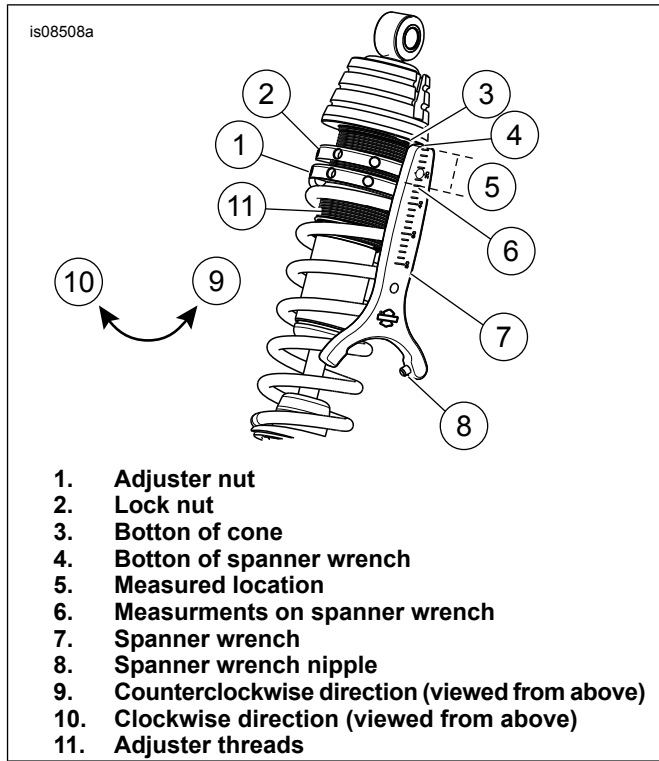

Figure 2. Preload Adjustment
The minimum distance (5 See Figure 2) is 16 mm (0.62 in).
The maximum distance (5 See Figure 2) is 46 mm (1.81 in).
1. Clean the adjuster threads (11).
2. See Figure 2. Loosen adjuster nut and lock nut:
- a. Place spanner wrench nipple (8) in hole of adjuster nut (1).
- b. Rotate in direction (10) to separate the two nuts.
4. Measure location by placing the bottom of the spanner wrench (4) on the bottom of the cone (3). Read the measurement on the spanner wrench (6) at the top of the adjuster nut. Note measured distance. Rotate adjuster nut to desired location (5).
- c. Rotate in direction (9) to lock nuts together.